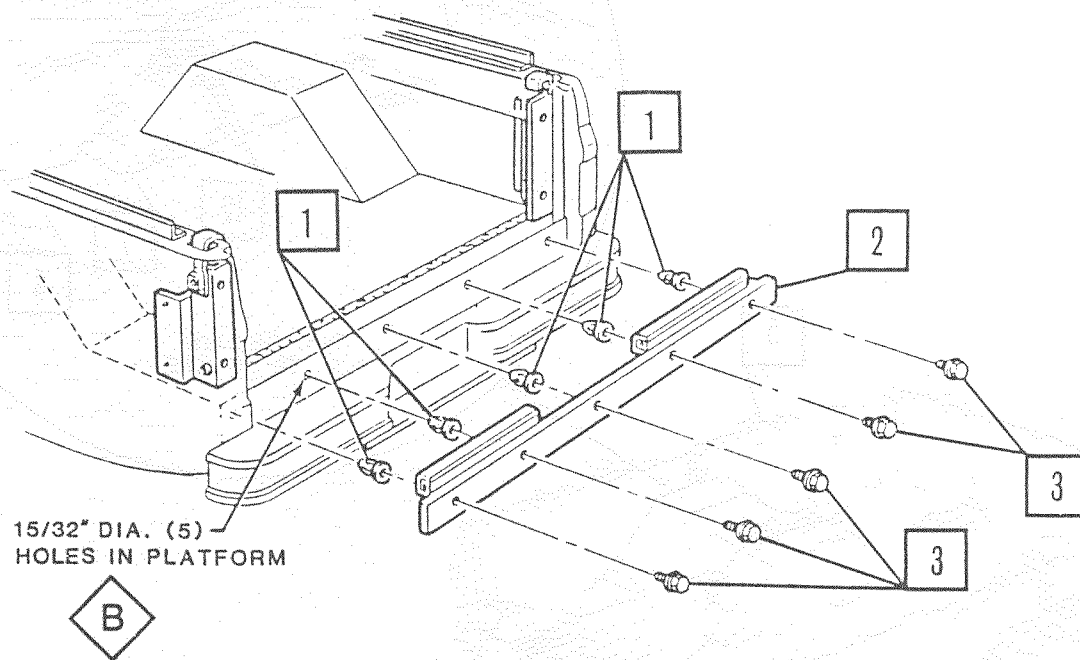

Figure 1.
12. Using floor panel insulator molding as a template, mark holes along rear tailgate opening (Figure 1.).
13. Remove floor panel insulator molding and drill 15/32 inch holes at marks (Figure 1.).
15. Secure floor panel insulator molding with bolts (Figure 1.). Tighten to 22-27 lb.-in. (2.5-3.0 Nm).